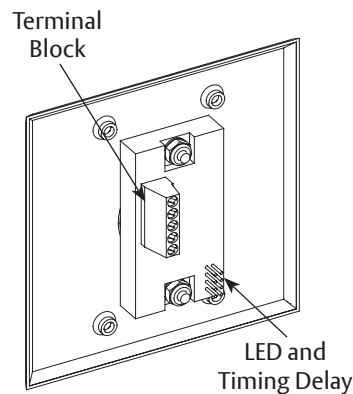

Figure 3
2. Use small flat head screwdriver to connect 24VDC and activation wiring with terminal block. (Fig 3) See “Wiring”, page 2 and appropriate wiring diagram of door operator instructions.